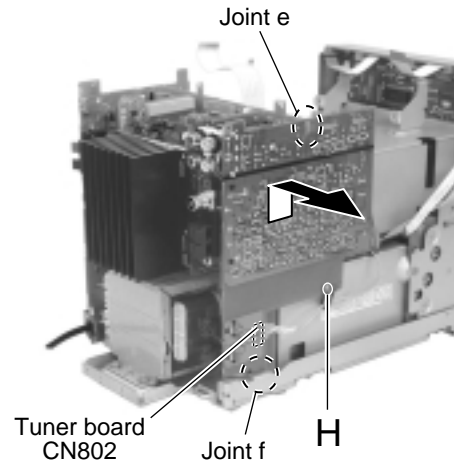

Fig.13
■ Removing the tuner board (See Fig.13)